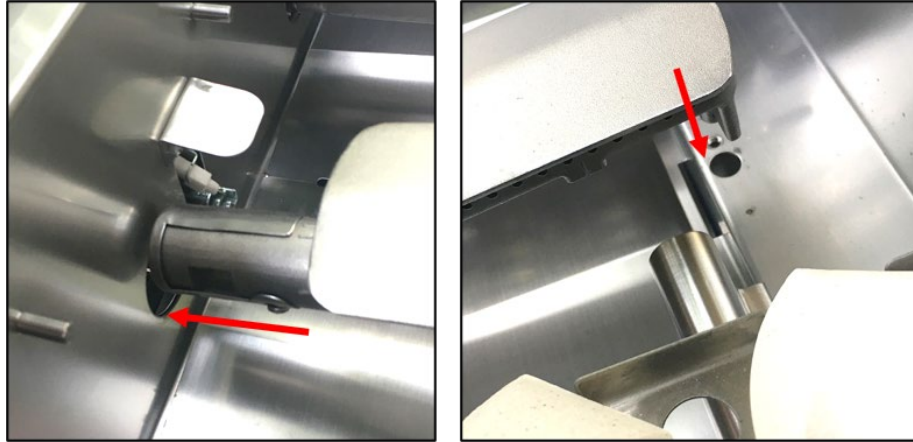

Figure 11 Install Burner
- d. Replace the burner – position the burner tube into the valve opening (Figure 11, left), then insert the mounting pin into the hole on the far side (Figure 11 right)